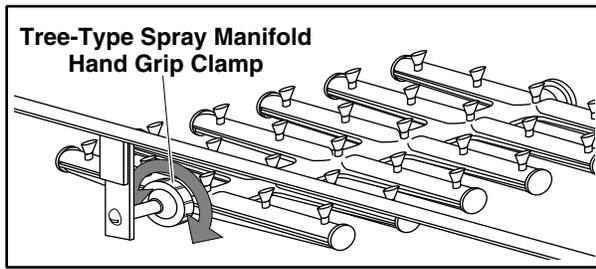

Figure 18: Tree-Type Spray Manifold Hand Grip Clamp
- b. Unscrew the Manifold Hand Grip clamp to loosen the Spray Manifold (Figure 18).